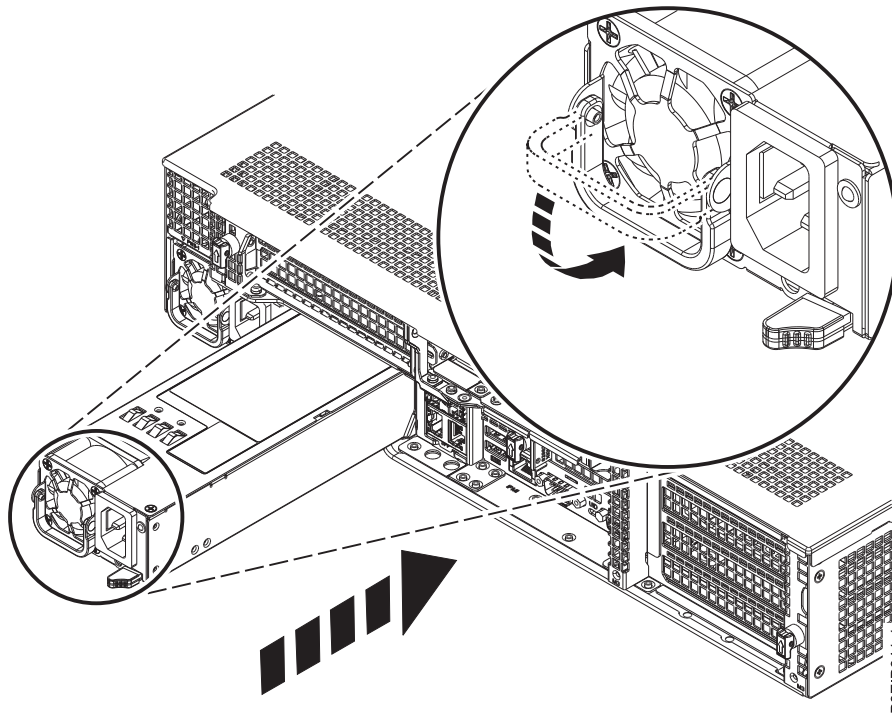

Figure 56. Replacing a power supply in the system
2. Align the power supply with the bay as shown in Figure 56. The fan is on the left; the plug is on the right. Slide the power supply into the system until the latch locks in place.